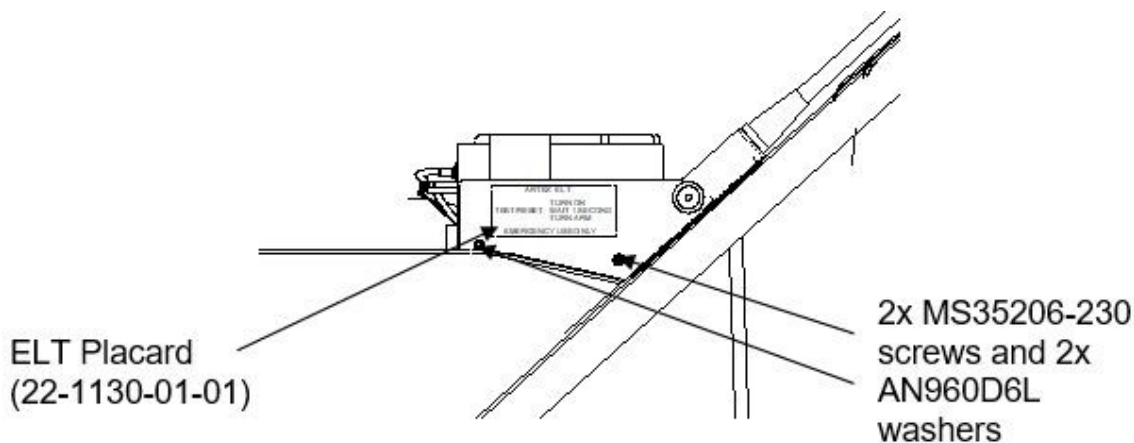

Figure 6. Installation of side bracket and ELT placard.
22. Install the Artex ELT tray (item 6 or 6a) using four screws and four washers (items 11 and 12).
23. Install the ELT unit (item 5 or 5a).
24. Install the ELT side bracket (item 2) onto the ELT bracket assembly using two screws and two washers (items 11 and 12). Refer to Figure 6.
27. Install the ELT placard (item 10) onto the ELT side bracket. Refer to Figure 6.